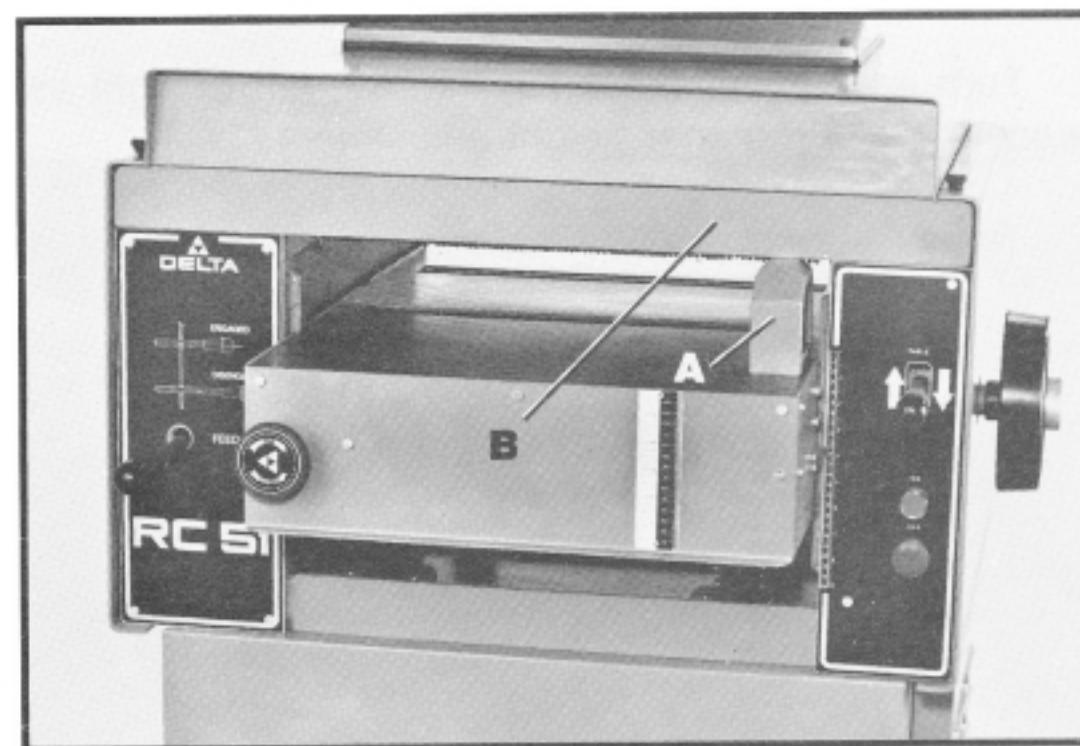

Fig. 41
3. Move gage block (A) Fig. 41, to opposite side of table, as shown. Distance from table to edge of head casting (B) Fig. 41, should be the same.